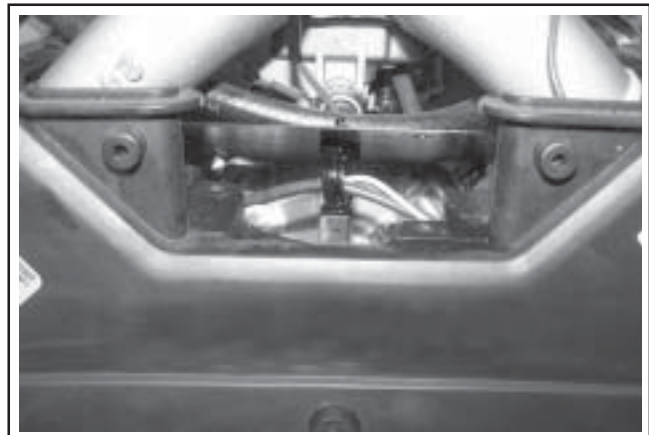

Figure 11-53. Routing of Wiring Harness (Two-Barrel Models).
2. **Two-Barrel Manifold (Carburetor) Models:** Route the wiring harness through the mounting clip on the underside of debris shield if separated earlier. Carefully position the debris shield to the rear as far as possible. See Figure 11-53.